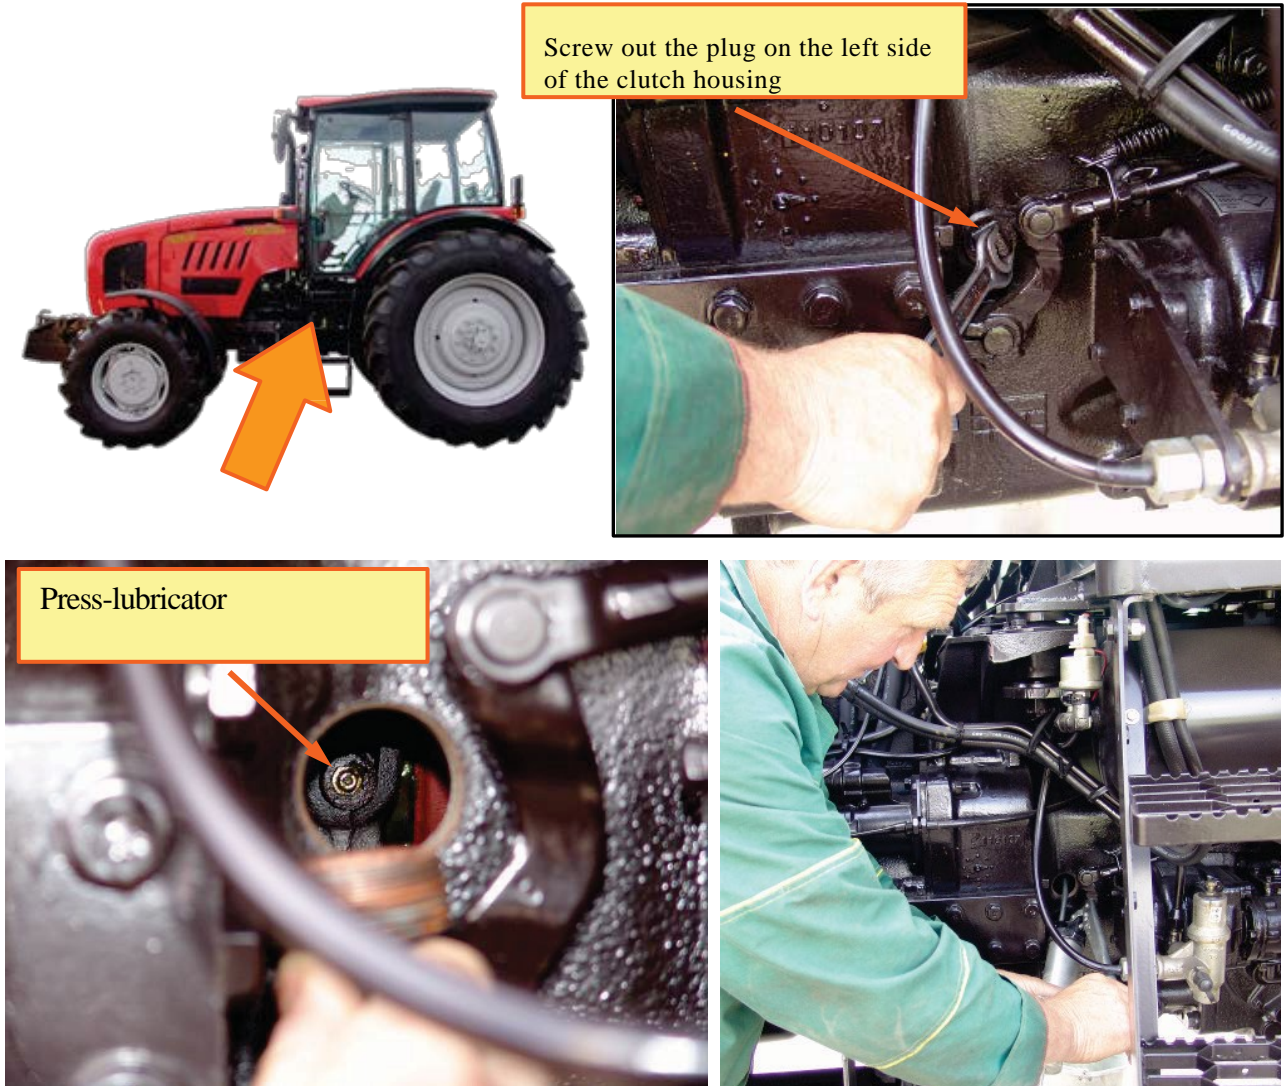

Figure 8.24
**Procedure 16. Greasing the Clutch Re-lease Bearing (fig. 8.24)**
- Screw out the plug (1) on the left side of the clutch housing.